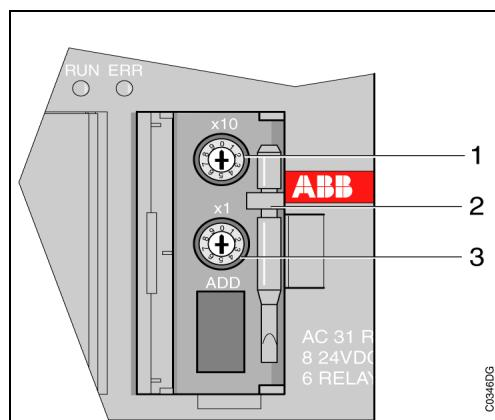

Figure 2-4: Magnification of item 9, cover removed
Magnification of item 9, cover removed (see also Figure 2-4 on the previous page):